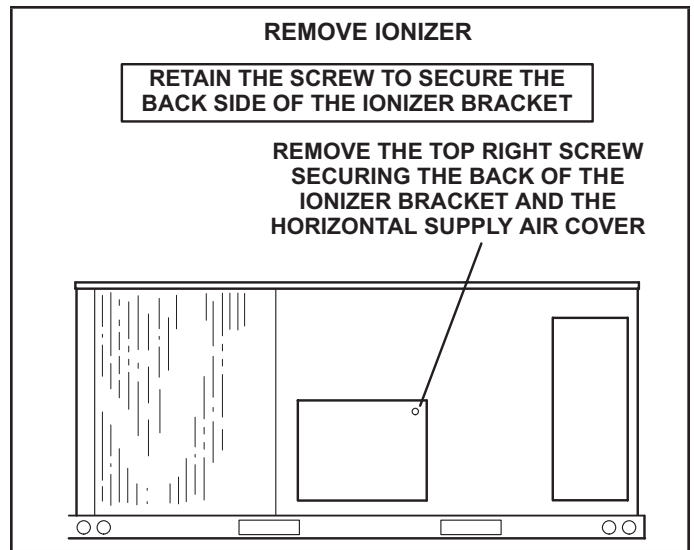

FIGURE 39
- 1 - On the back side of the unit, remove the screw securing the back of the ionizer bracket. See FIGURE 39. Retain the screw to secure the back side of the ionizer bracket.